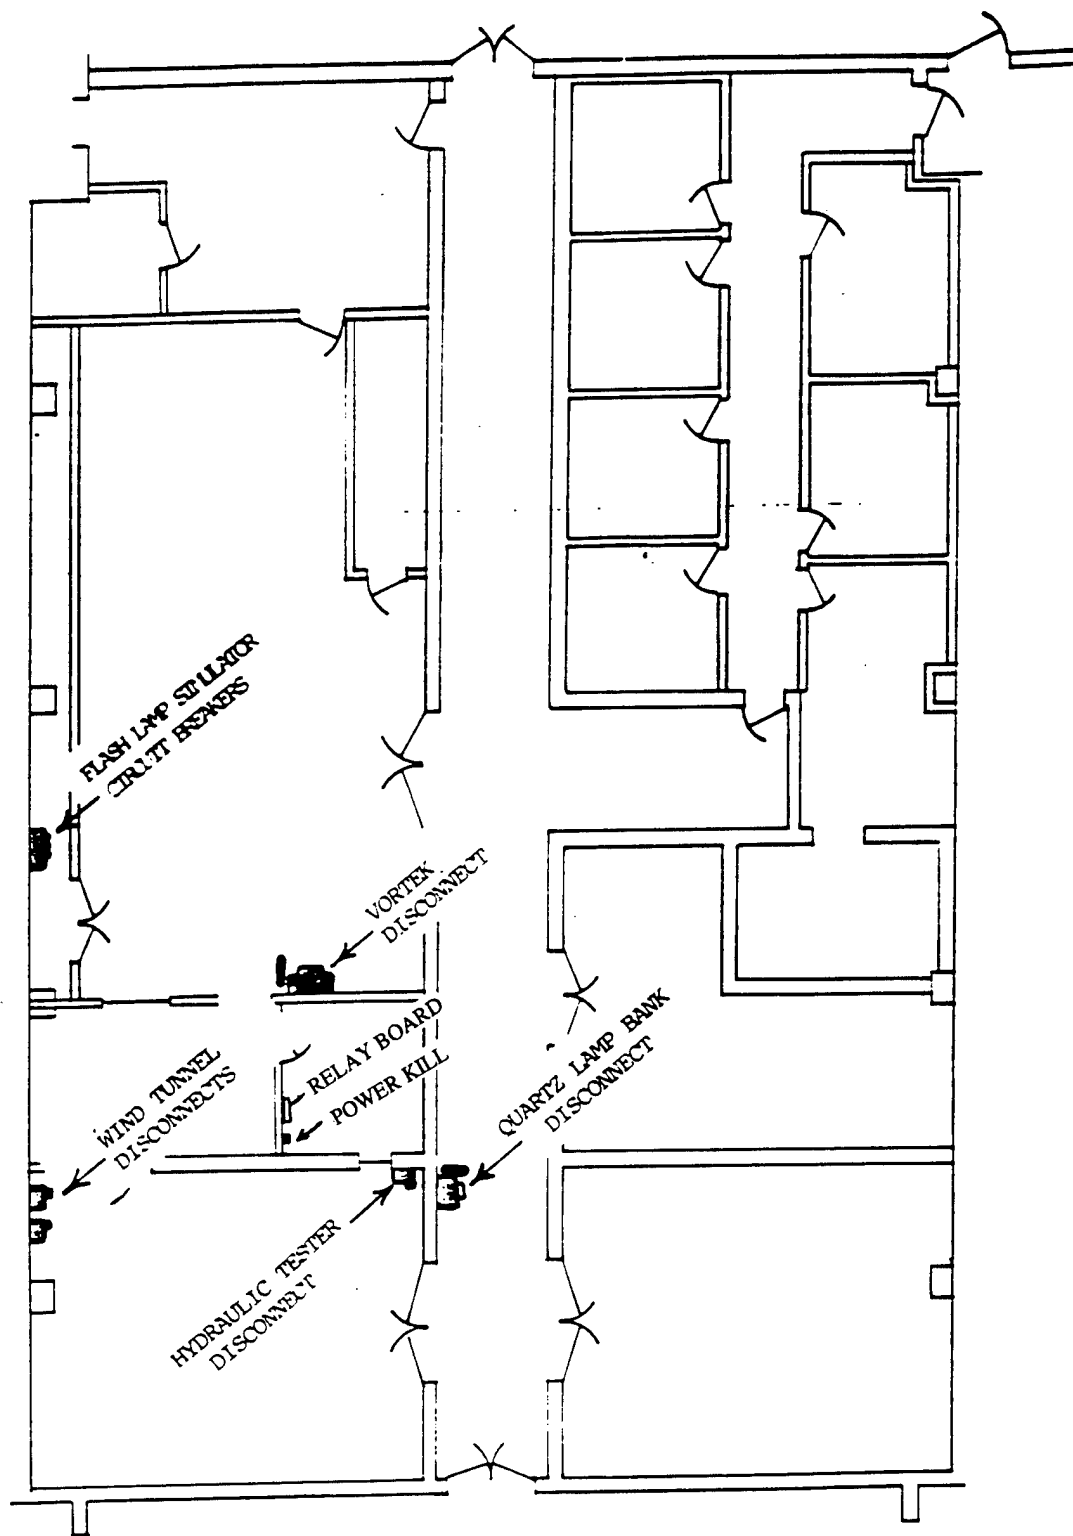

Figure 2-1. Quartz Lamp System Power Disconnect Locations.
Prior to system startup and operation, it shall be verified that all power to the system is in the "OFF" condition. Power switch locations for all system components are shown in Figure 2-1:
2. Activate QLB Power Disconnect circuit breaker in Bay 7 hallway (Figure 2-1).
3. Activate windtunnel blower switches in test room (Figure 2-1).
4. Activate toggle switch on the relay panel on data acquisition room wall (Figure 2-1). Amber light on panel will illuminate.